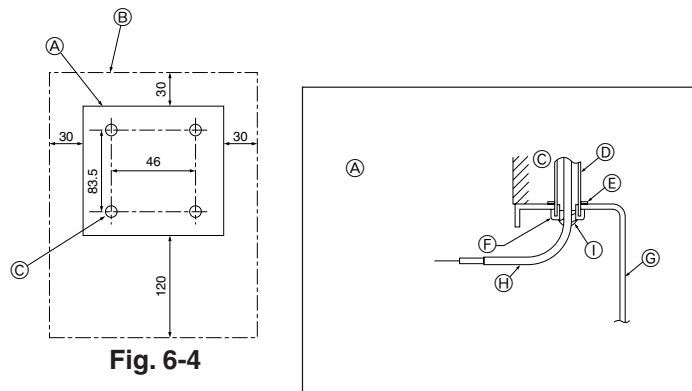

Fig. 6-4
(1) Select an installing position for the remote controller. (Fig. 6-4)